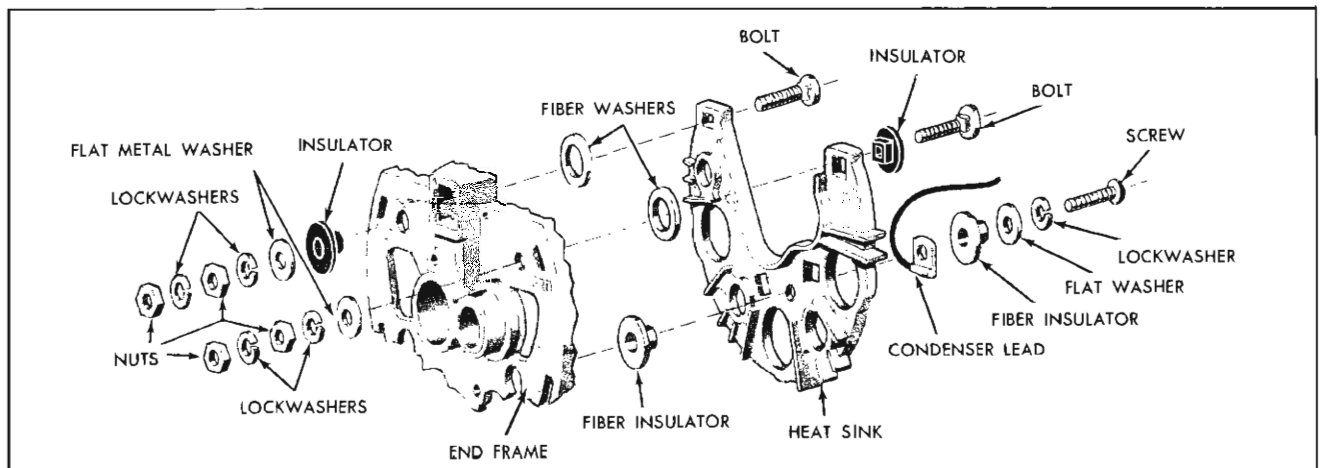

Fig. 29—Heat Sink—Parts Location
7. Remove heat sink from end frame by removing "batt" and "grd" terminals and one attaching screw (fig. 29).
1. Detach heat sink from end frame by removing the two terminal bolts. Note carefully the proper stack-up of parts so that the "BAT" and "GRD" terminal bolts can be reassembled in the same manner (fig. 29).